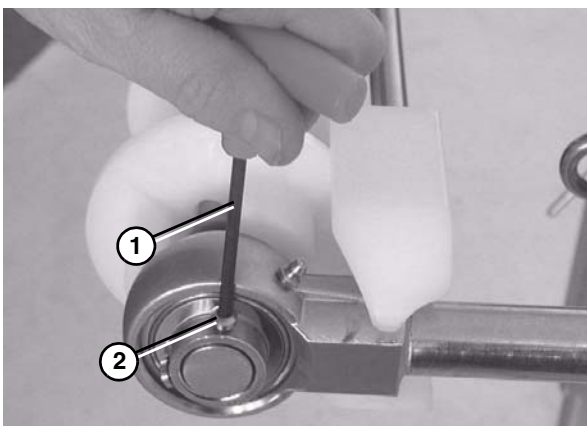

Figure 61
4. Use a hex wrench (**Figure 61, item 1**) to loosen the bearing shaft assembly fasteners (**Figure 61, item 2**).